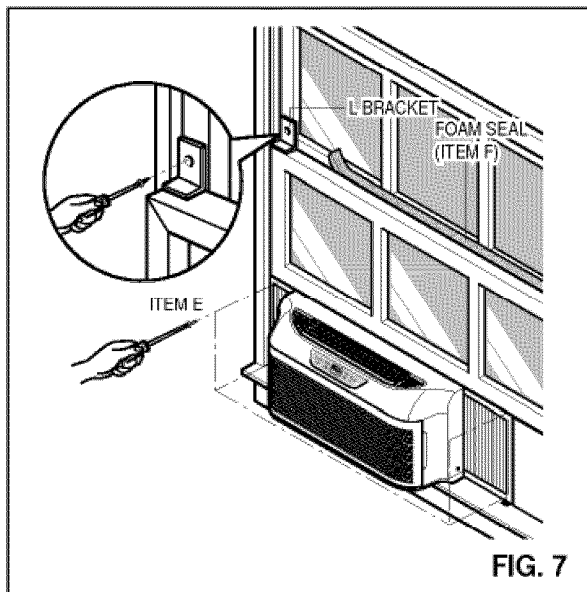

FIG. 7
Expand the curtain frames and secure them using 5 screws (ITEM E) as shown in FIG. 7.
- Cut the foam seal (ITEM F) to the window width. Stuff the foam seal between the glass and the window to prevent air and insects from getting into the room, as shown in FIG.7.